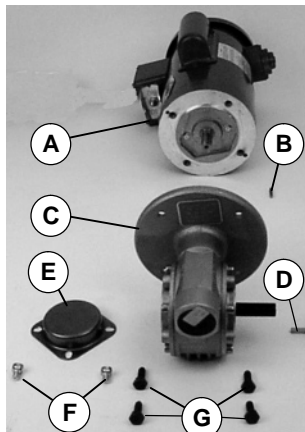

Figure 1
5. Refer to Figure 1 and detach the following:
- a. Remove the four screws (G). Detach the motor (A) from the gear reducer (C). Be sure to retain motor output shaft key (B).
- b. Remove the two screws (F) and detach the output shaft cover (E).
- c. Remove and retain the gear reducer output shaft key (D).